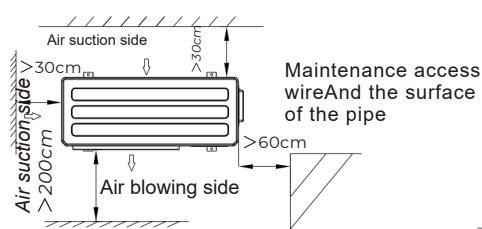

Fig3.1
- 2) Sufficient installation and maintenance space are available (referring to Fig. 3.1 ~ 3.4).
- 7) Please refer to Fig. 3.1 ~ 3.4 for the necessary space.